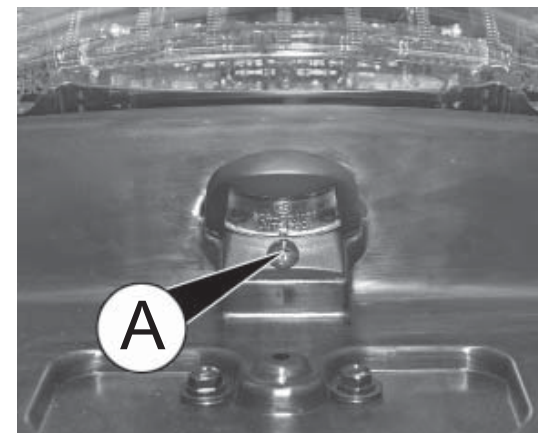

fig. 5
- Unscrew screw A fig. 5
- Reposition the plastic cover, screwing down the retaining screw A fig. 5.